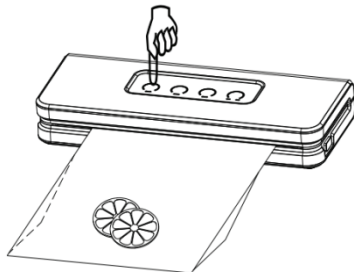

Figure 4
7. Press Vacuum Seal Button and the appliance will complete the process automatically (as shown in Figure 4);